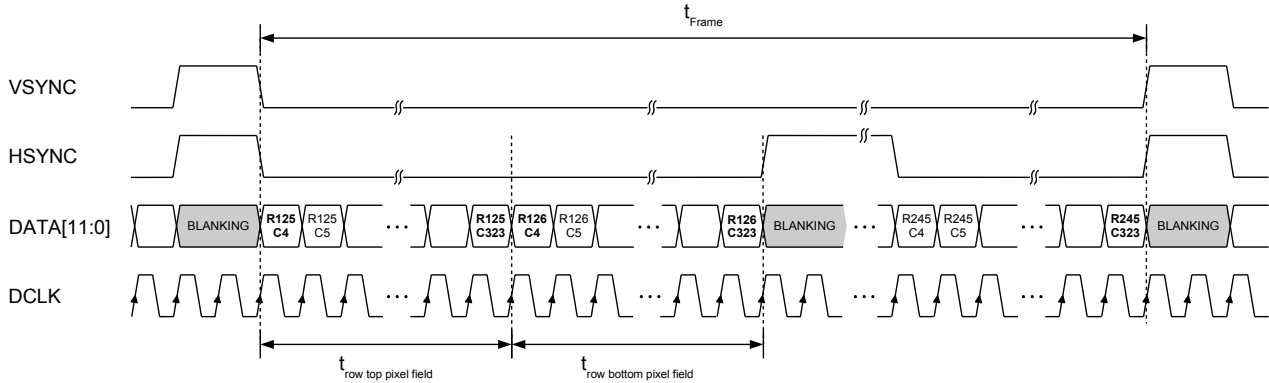

Figure 31: 12-bit mode data readout
- 12-bit mode: Transfers 12 bit pixel data with 1x DCLK (default). Refer to Figure 31.